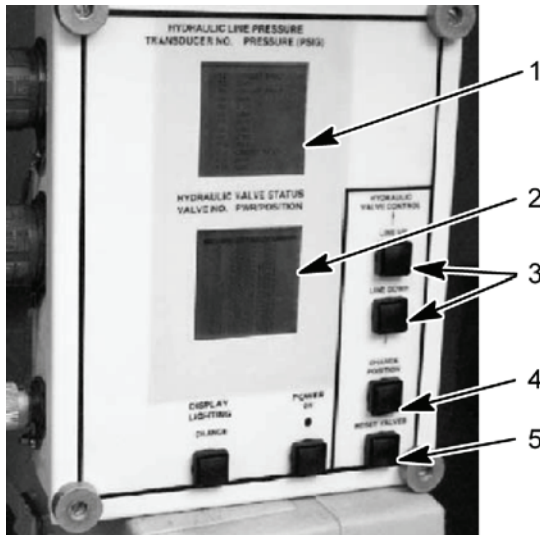
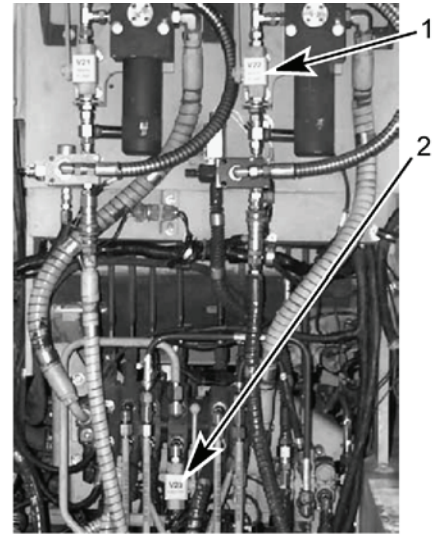

Figure 9. HDC Control Box
Figure 10. DCV Bank
- Reset all HDC solenoid valves by selecting the RESET VALVES button (Figure 9, item 5) on the HDC control box.
- Disable ejector by manually closing the ejector inhibit ball valve V23 (Figure 10, item 2) on the DCV bank. Using LINE UP or LINE DOWN button (Figure 9, item 3), select V1 on the HDC display (Figure 9, item 2). Close V1 on the HDC display (Figure 9, item 2) by selecting the CHANGE POSITION button (Figure 9, item 4) on the HDC control box.
- Ensure left main hydraulic pressure inhibit valve V22 (Figure 10, item 1) is fully opened.
- Have assistant start engine and allow engine to idle (750–800 rpm). Slowly close left main hydraulic pressure inhibit valve V22 (Figure 10, item 1), until transducer T-4 on the HDC display (Figure 9, item 1) reaches 3,950–4,050 psi (27,235–27,925 kPa).
- Open left main hydraulic pressure inhibit valve V22 (Figure 10, item 1) fully.
- Using LINE UP or LINE DOWN button (Figure 9, item 3), select V1 on the HDC display (Figure 9, item 2). Open V1 (Figure 9, item 2) on the HDC display by selecting the CHANGE POSITION button (Figure 9, item 4) on the HDC control box.
- Open ejector inhibit ball valve V23 (Figure 10, item 2).